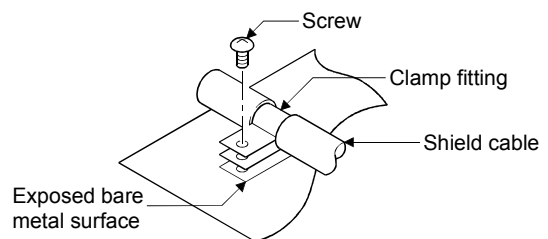

Figure 8.2 Shield grounding (Correct example)
- 2) Ground the exposed shield section to spacious area on the control panel. A clamp can be used as shown in Figure 8.2.